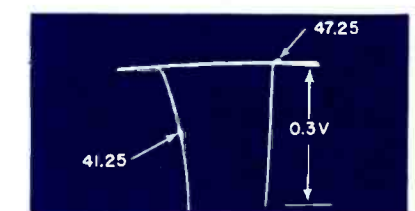

Fig. 13 Expanded View of Traps
9. Switch the oscilloscope to 10X gain used in the above steps to blow up the trap slots. Adjust the 47.25 Mc marker (top core 1st IF transformer). The 41.25 Mc marker should be in the approximate position shown in Fig. 13. On some receivers